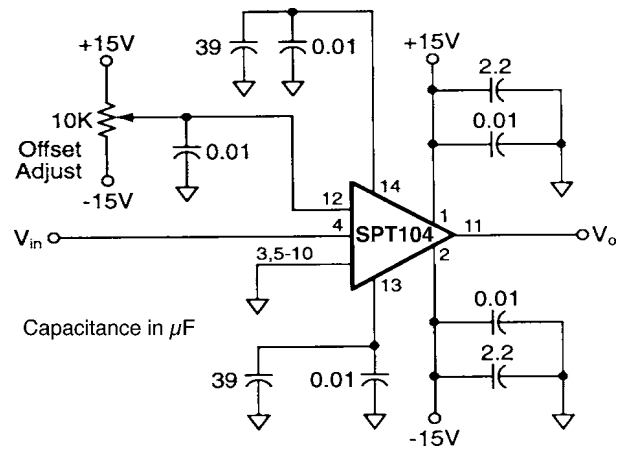

Figure 1: Basic Circuit
DC offset of the SPT104 may be adjusted by applying a DC voltage to the amplifier's offset adjust pin (12). The simplest method is shown in Figure 1. Using this method of offset adjust it is possible to vary the output offset by approximately $\pm 400\text{mV}$. This simple adjustment has no effect on the offset drift characteristics of the SPT104.